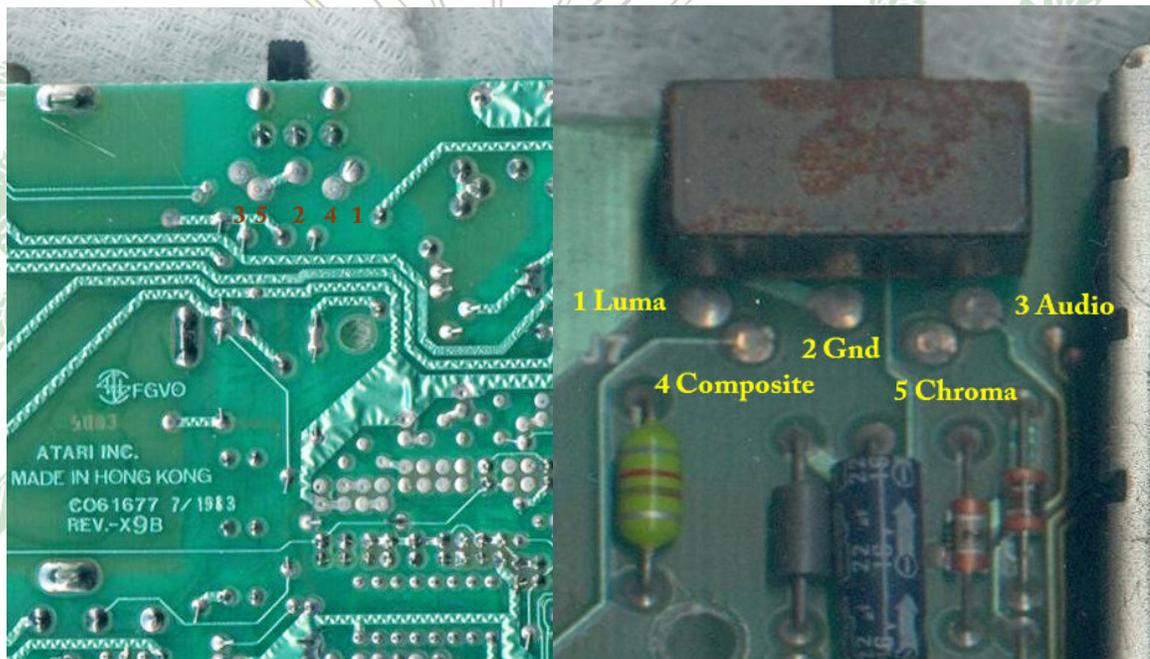

Figure 4: Solder points on 600XL M/B
- a. Remove solder from points in **Figure 4: Solder points on 600XL M/B**